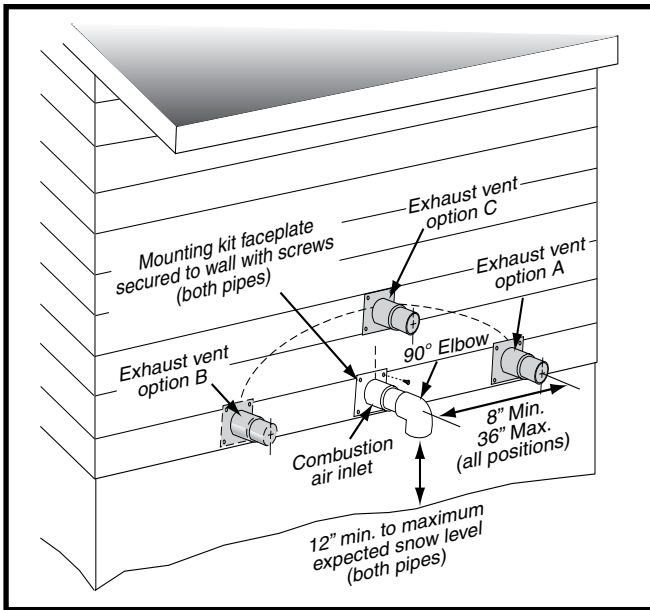
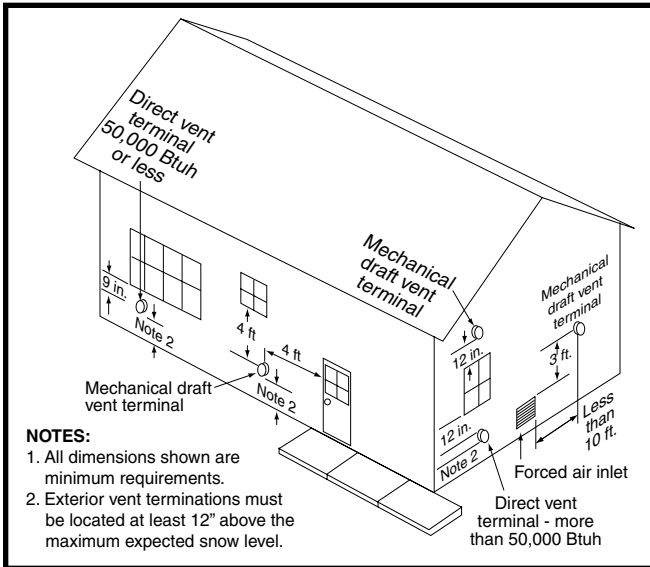
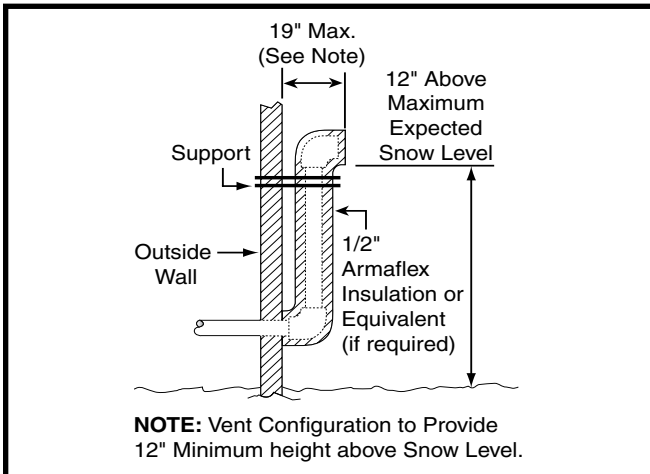
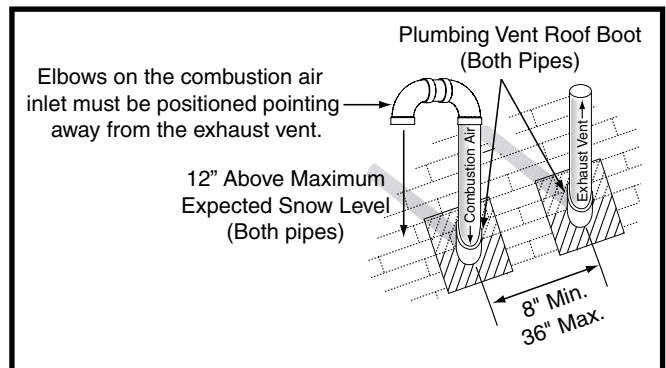

Figure 1. Inlet & Exhaust Pipe Clearances
Figure 2. Vent Locations
Figure 3. Alternate Horizontal Vent Installation
Figure 4. Vertical Vent Termination
- When a 2-pipe system is used, the combustion air intake and the vent exhaust must be located in the same atmospheric pressure zone. This means both pipes must exit the building through the same portion of exterior wall or roof as shown in Figure 1, Figure 2 & Figure 4 \(page 9\) and Figure 29 \(page 38\).
- Vent and combustion air intake terminations shall be installed as shown in Figure 1, Figure 2, Figure 3, & Figure 4 and in accordance with these instructions:
- All minimum clearances (Figure 2) must be maintained to protect building materials from degradation by flue gases.
- When the vent pipe must exit an exterior wall close to the grade or expected snow level where it is not possible to obtain clearances shown in Figure 1, a riser may be provided as shown in Figure 3. Insulation is required to prevent freezing of this section of pipe. See Table 3, \(page 10\) for vent freezing protection.
Termination spacing requirements from the roof and from each other are shown in Figure 4. The roof penetration must be properly flashed and waterproofed with a plumbing roof boot or equivalent flashing. Vent and combustion air piping may be installed in an existing chimney which is not in use provided that:
- The termination clearances shown in Figure 4 are maintained.